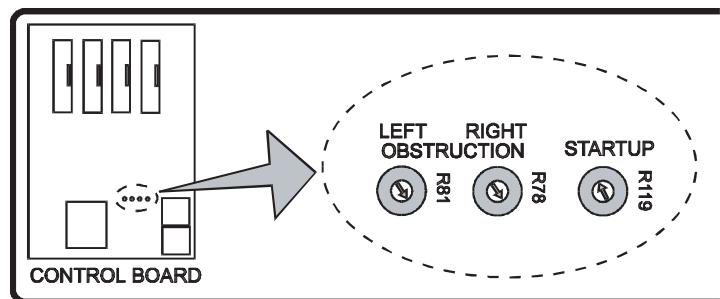

Figure 10. Gate Sensitivity Adjustments Location
- Before starting the adjustments, verify that the Left and Right obstruction pots are set fully clockwise, and the Start-up pot is set to the 11 o'clock position (see Figure 10).